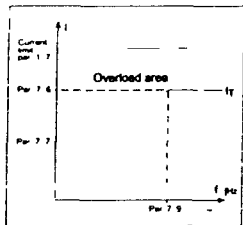

Figure 3.5-28 Motor thermal current I curve
- The current can be set between 50.0—150.0%  $\times I_{L\_max}$ . This parameter sets the value for thermal current at frequencies above the break point on the thermal current curve. See figure 3.5-28.
- The current can be set between 10.0—150.0%  $\times I_{L\_max}$ . This parameter sets the value for thermal current at zero frequency. Refer to figure 3.5-28.
- The frequency can be set between 10—500 Hz. This is the frequency break point of the thermal current curve. With frequencies above this point, the thermal capacity of the motor is assumed to be constant. See figure 3.5-28.